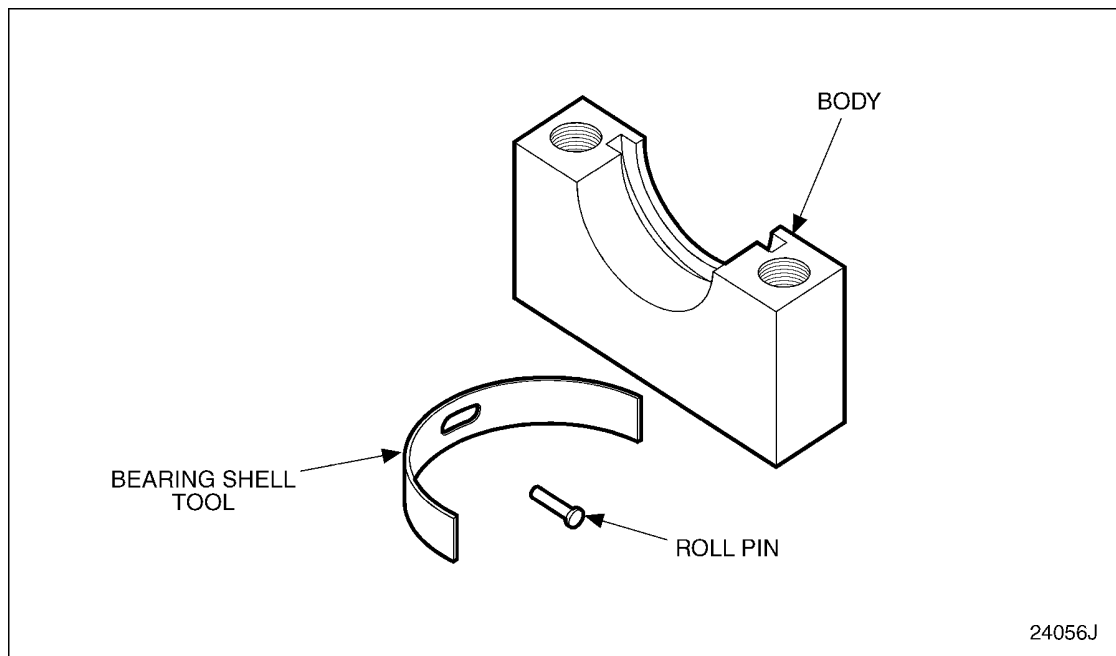

Figure 1-140 Main Bearing Shell Remover and Installer Tool Set
4. To remove the upper main bearing shells without crankshaft removal, it will be necessary to use the main bearing shell remover and installer tool set, J 36187-A. See Figure 1-140.